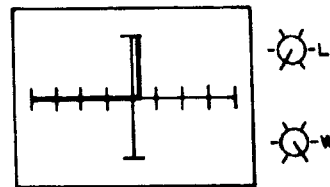

Figure 9-7b.
1. Adjust the LEVEL and WIDTH control to duplicate the signatures in Figure 9-7b, c, d.